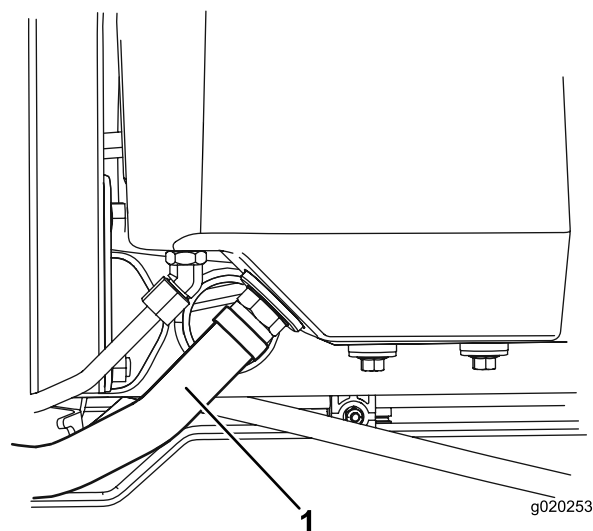

Figure 80
2. Disconnect the large hydraulic hose (Figure 80) from the reservoir and let the hydraulic fluid flow into a drain pan.